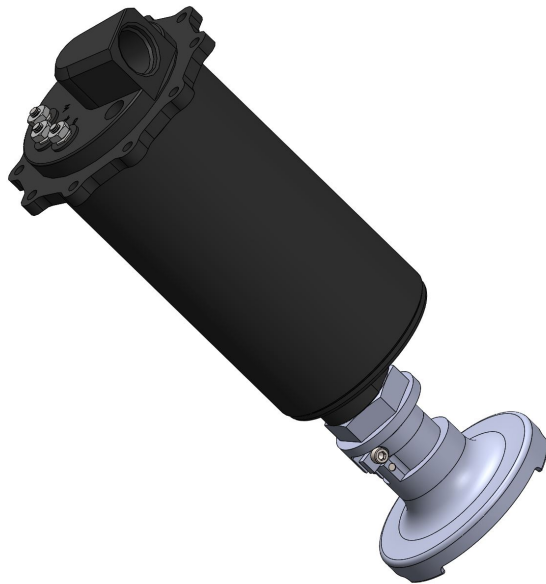

FIGURE 1-6
8. Measure the depth of the tank to determine the pump assembly length requirement. Subtract .125-.250" off of the depth measurement so that the pickup isn't resting on the bottom of the baffle. Cut the supplied tube to the length required for the pump assembly to have the desired length. Deburr the inside of the pipe and chamfer the outside edge so that it doesn't cut the o-rings when the tube is inserted into the clamps (use light grease or oil to aid in assembly). Assemble the pump and filter as shown in **Figure 1-6** (the assembly shown in the figure has the shortest possible configuration of 9.75" length).